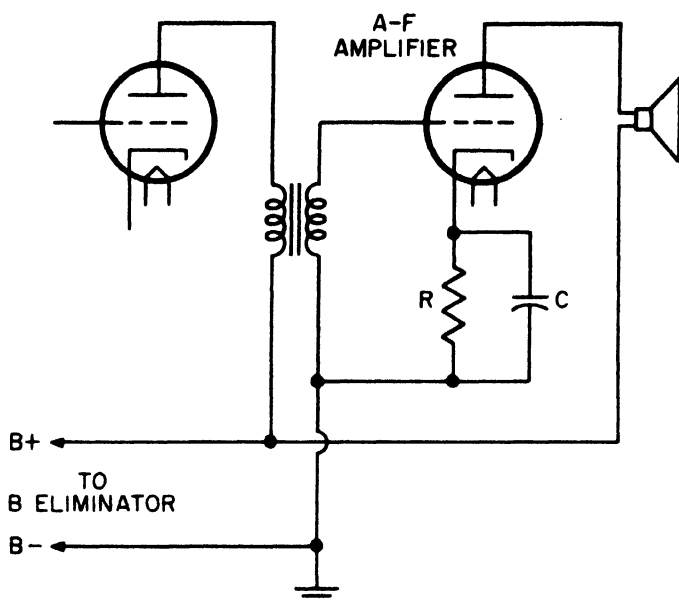

Fig. 20-4. Circuit showing bias resistor ( $R$ ) and bypass capacitor ( $C$ ).
**Preventing Amplification Loss with a Bypass Capacitor.** If you examine Figure 20-4, you will notice that this bias resistor is in the plate circuit. The electrons stream up from the negative terminal of the B eliminator, through the bias resistor to the cathode, across to the plate and through the winding of the loudspeaker, and back to the positive terminal of the B eliminator.